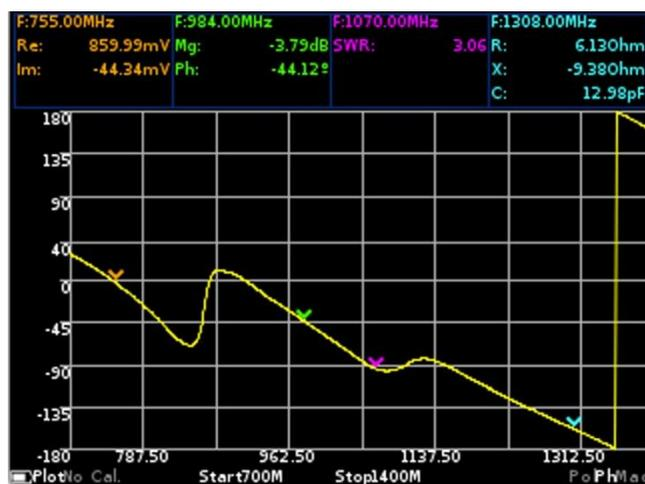

Figure 10.3 – Phase plot
10.3.1. The phase plot shows the dependence of the phase of the reflection coefficient (RC) on the frequency, relative to angles from -180 to 180 degrees (Figure 10.3). On the screen of the device is designated as **Ph**. Enabling or disabling the display of this plot on the screen is made as indicated in par. 9.3.
In our example in figure 10.3 GSM antenna with operating frequency of 900 MHz is tested. Above the plot, the measurement values of the four included markers are displayed in the specified units.